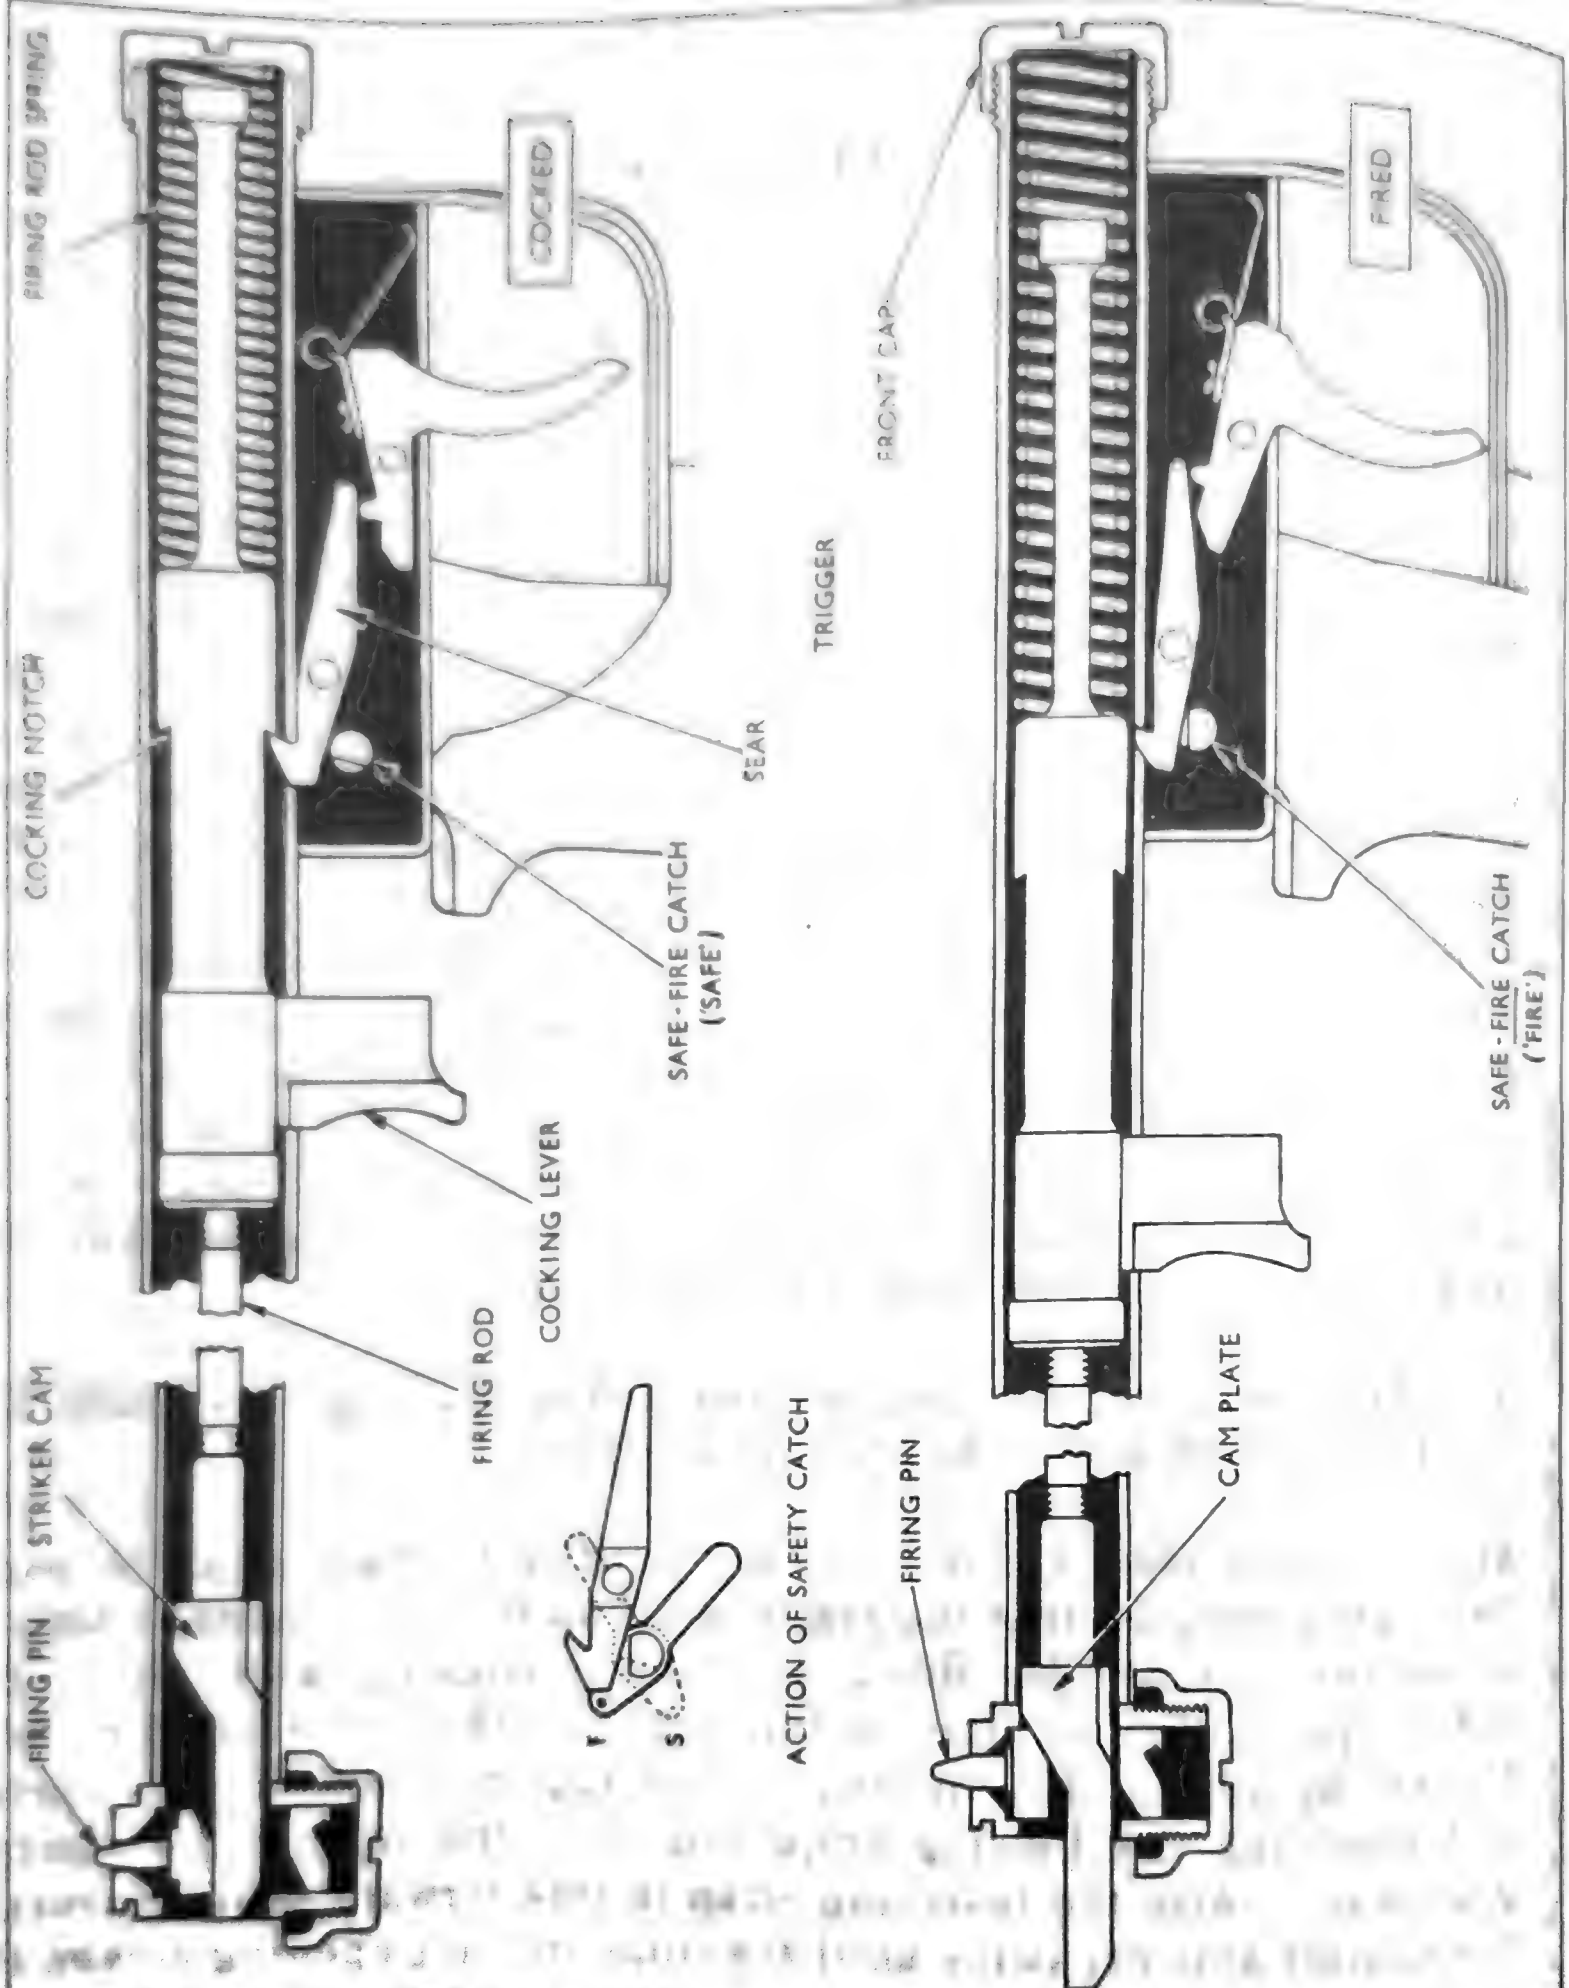

Fig 16: Action of Firing Mechanism
39. *To Cock the Firing Mechanism.* The cocking lever is moved forward compressing the firing rod spring between the head of the firing rod and the front cap (Fig 16). Forward movement of the rod withdraws the striker cam through the aperture in the end of the firing mechanism housing and through the firing pin. The narrow projection on the right of the striker cam moves out of the recess in the firing pin and at the same time the inclined surface on the left side moves away from the inclined surface inside the firing pin. Further forward movement of the cam causes the inclined surface on the right side to engage with the inclined plane in the firing pin thus causing the pin to be withdrawn to the right away from the boring in the barrel. Meanwhile the head of the firing rod, in moving forward, causes the trigger sear assisted by its spring, to ride over, and come to rest behind the cocking notch, thus arresting any rearward movement of the mechanism. The mechanism is now cocked and ready to fire.
44. *To Fire the Mechanism.* The trigger is pulled to the rear thus removing the sear from the head of the firing rod (Fig 16). The firing rod spring immediately re-asserts itself and via the firing rod head, causes the firing rod to move violently to the rear. In doing so the inclined surface on the face of the striker cam, strikes against the appropriate inclined surface in the firing pin thus causing it to move to the left and impinge upon the primer.
46. *Applied Safety.* The safe-fire catch when turned to safe, (Fig 16) fouls the rear part of sear, thereby preventing the sear cocking tooth disengaging from the cocking notch in the head of the firing rod. The device only operates when the mechanism is cocked.